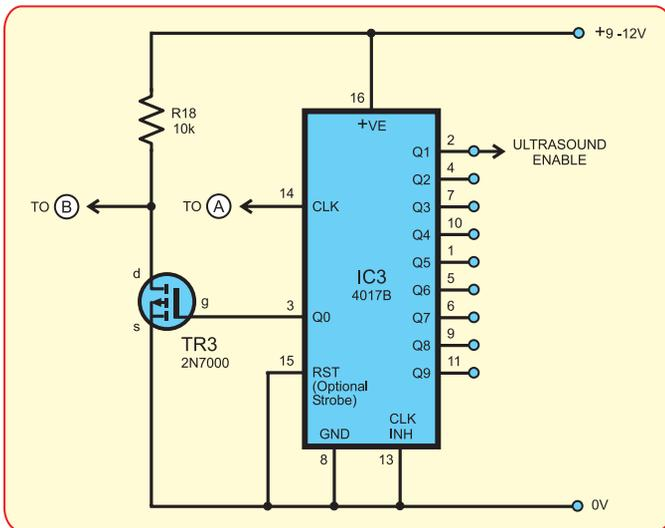

Fig.3. Add-on circuit for converting to a sound sonar system
The Bat Sonar may be converted to a sonar system with remarkable ease (see Fig.3.). This is accomplished by simply inserting the add-on circuit of Fig.3 between points A and B (IC1a pin1 and IC2 pin11) of the main circuit (Fig.2.).
While the author successfully tested the circuit shown in Fig. 3, when tried in his workroom, it was found that the ultrasound may bounce all around the room. Ideally, the sonar would be used to detect objects blocking a clear path, e.g. boats on the water, or cars on the road. The author would suggest setting up the circuit on a clear surface with a single wall in front of one, e.g. a wall on a tennis court.
- 1 4017B decade counter (optional, see Fig.3.) (IC3)
- 1 2N700 *n*-channel FET (optional, see Fig.3.) (TR3)
- 1 10kΩ (optional, see Fig.3.) (R18)